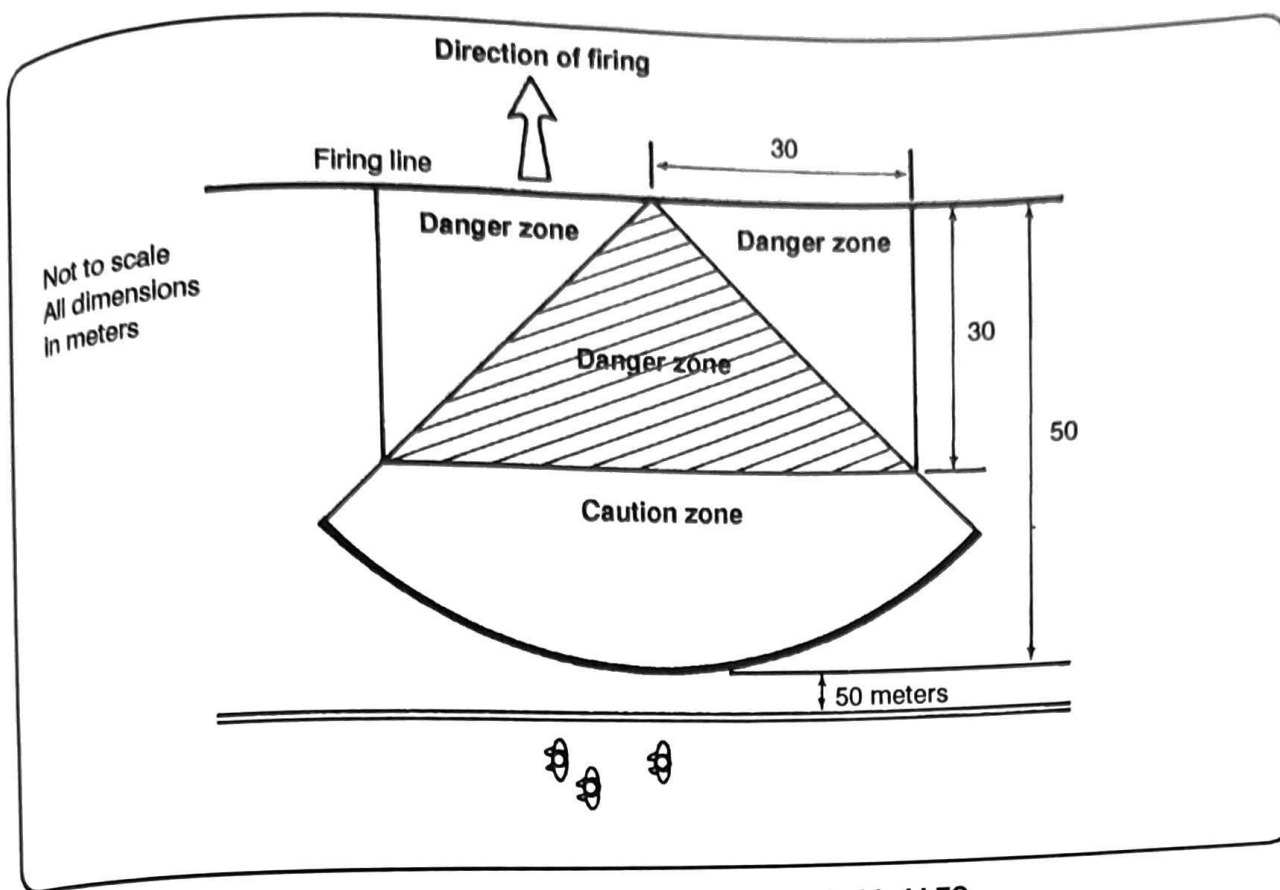

Figure 2-2. Personnel crossing 50 meters behind LES.
(5) Debris. Personnel must not stand in front of or in back of the LES when it is being fired. If it is necessary to cross behind the LES, they must cross at least 50 meters away (see Figure 2-2).